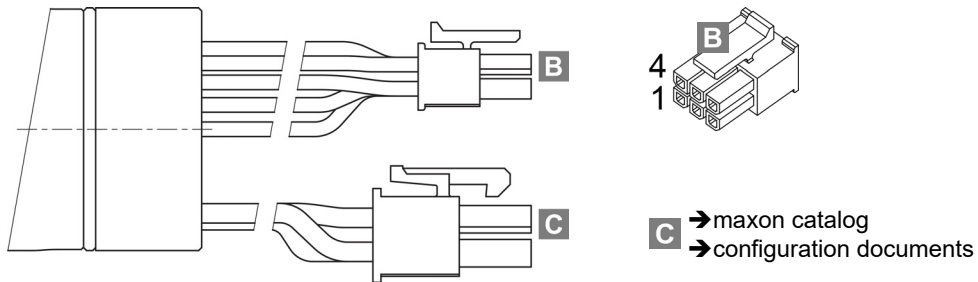

Figure 18 ENX 13...22 COMM – Cable Plugs
- Hall sensors with plug / Motor with plug (→Figure 18)